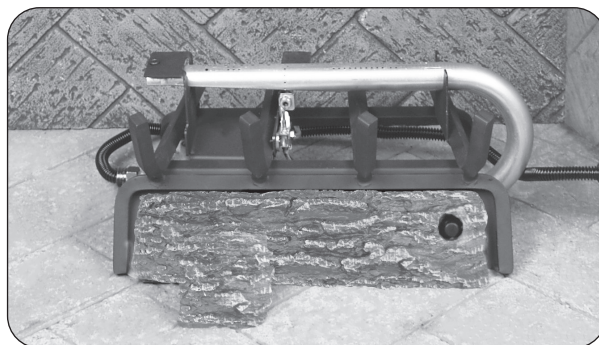

Fig. 20-1 Install decor cover (manual valve)
**For manual models:** the valve control knob must be removed in order to place the decor panel. Then replace the knob and place the supplied wood chip in front of the knob. See Fig. 20-1.